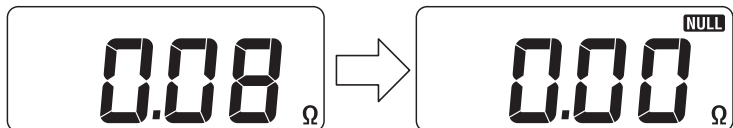

Fig.9
- (4) Press the **NULL|250V/500V** switch whilst maintaining contact between the Test Lead and the earth pin adapter, the resistance of the Test Lead will be displayed on the LCD as shown in Fig.9 for 2sec.
Then, the instrument cancels the resistance value of the Test Lead and adjusts the displayed value to "0.00" as shown in Fig.9.